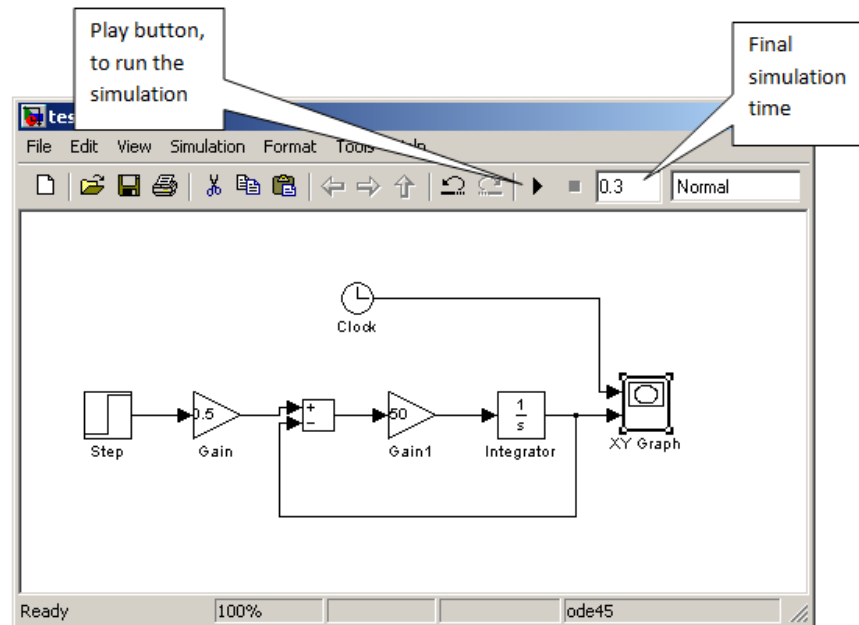
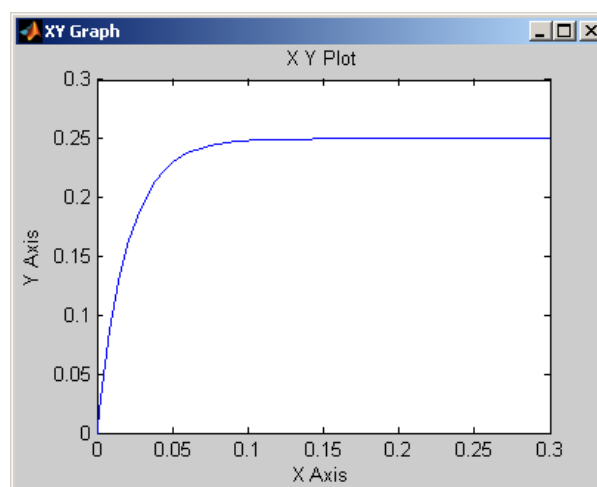

Figure 12: Finally Simulation Model
Figure 13: First-order Step Response
19. Since, the output will only plot from 0 to 0.3 seconds, change the final time of the simulation to 0.3 seconds as shown in Figure 12.
20. Finally, run the simulation by pressing the play button shown in Figure 12 and the step response graph will be shown in Figure 13.